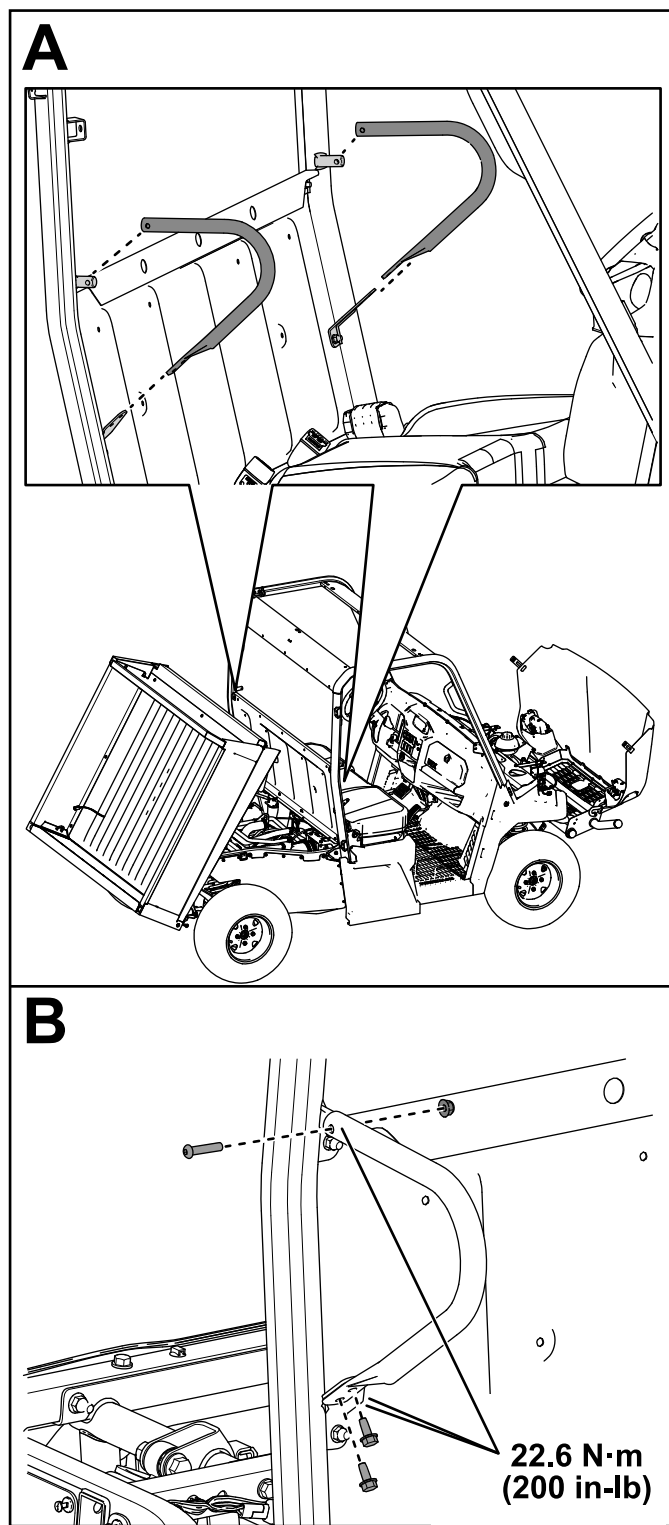

Figure 21
16. Secure the 2 shoulder restraints to the rear roll bar assemblies using 4 self-tapping screws (5/16 x 3/4 inch), 2 button-head bolts (5/16 x 1-1/2 inches), and 2 locknuts (5/16 inch) as shown in Figure 21.
Torque the locknuts (5/16 inch) to 22.6 N·m (200 in-lb) as shown in Figure 21.